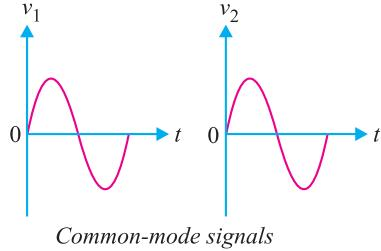

Fig. 25.8
**(i) Common-mode signals :** When the input signals to a DA are in phase and exactly equal in amplitude, they are called *common-mode signals* as shown in Fig. 25.8. The common-mode signals are rejected (not amplified) by the differential amplifier. It is because a differential amplifier amplifies the difference between the two signals ( $v_1 - v_2$ ) and for common-mode signals, this difference is zero. Note that for common-mode operations,  $v_1 = v_2$ .